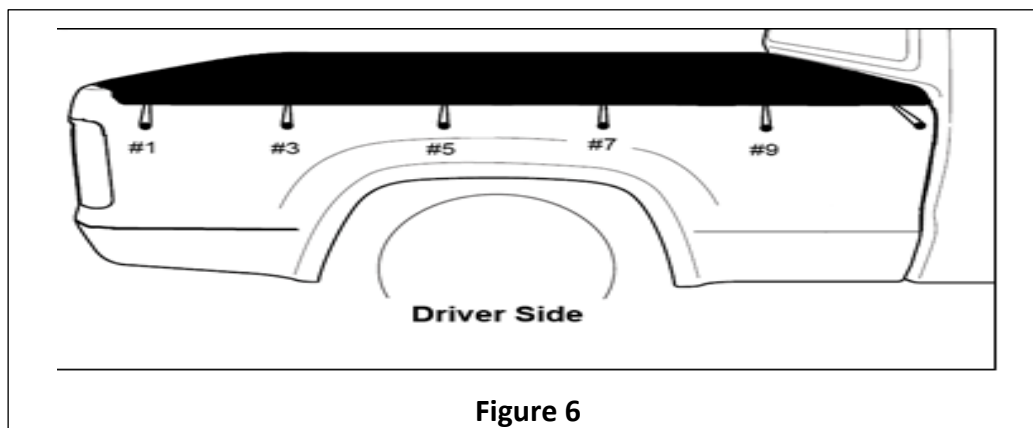

Figure 6
8. Work from the rear most bunjis towards the front, alternating from side to side. Line up the rear most bunji loop (#1) on the drivers side of the vehicle and make a mark on the line drawn in step 8. Drill hole, apply rust inhibitor and rivet button into place as shown in **Figure 6**
Fit remaining 8 bunjis following the sequence as in **Figures 6 & 7**